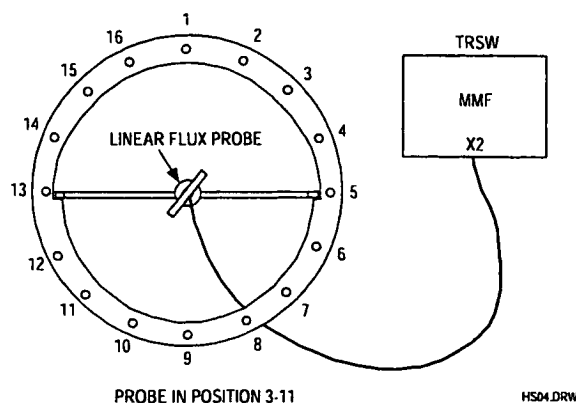

Figure 3 Frequency adjustment mode 3 - 11 (front view)
1. Position the **linear flux probe** with use of the rotation knob in the QBC flux probe holder in the center of the QBC. Connect the cable of the flux probe to tune A at connector MMFX2. The cable should leave the magnet via the rear side to prevent coupling with the hybrid box. See Figure 3.
2. Position the flux probe in position 3-11 (Figure 3).